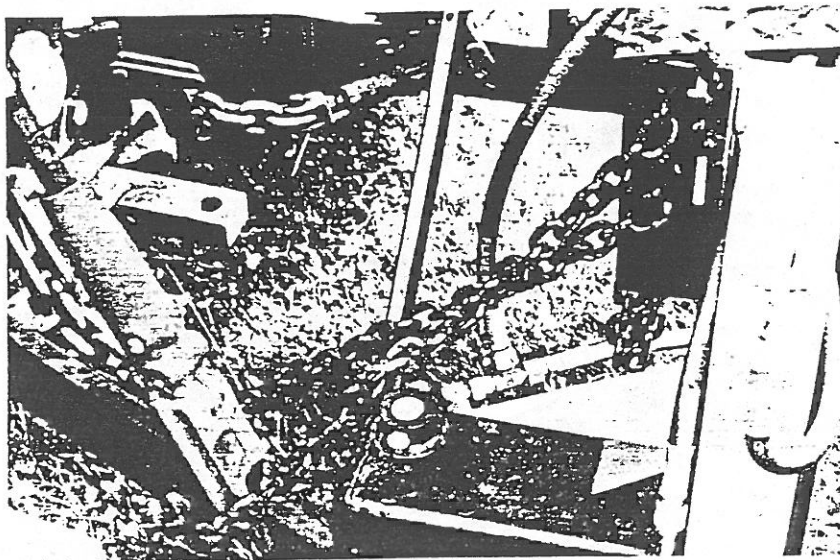

Figure 9
25. Safety chains must be securely wrapped around the lower hitch arms at the radius rod pivot point. Then secure to the chain anchor located below the foot pad as in Figure 9.